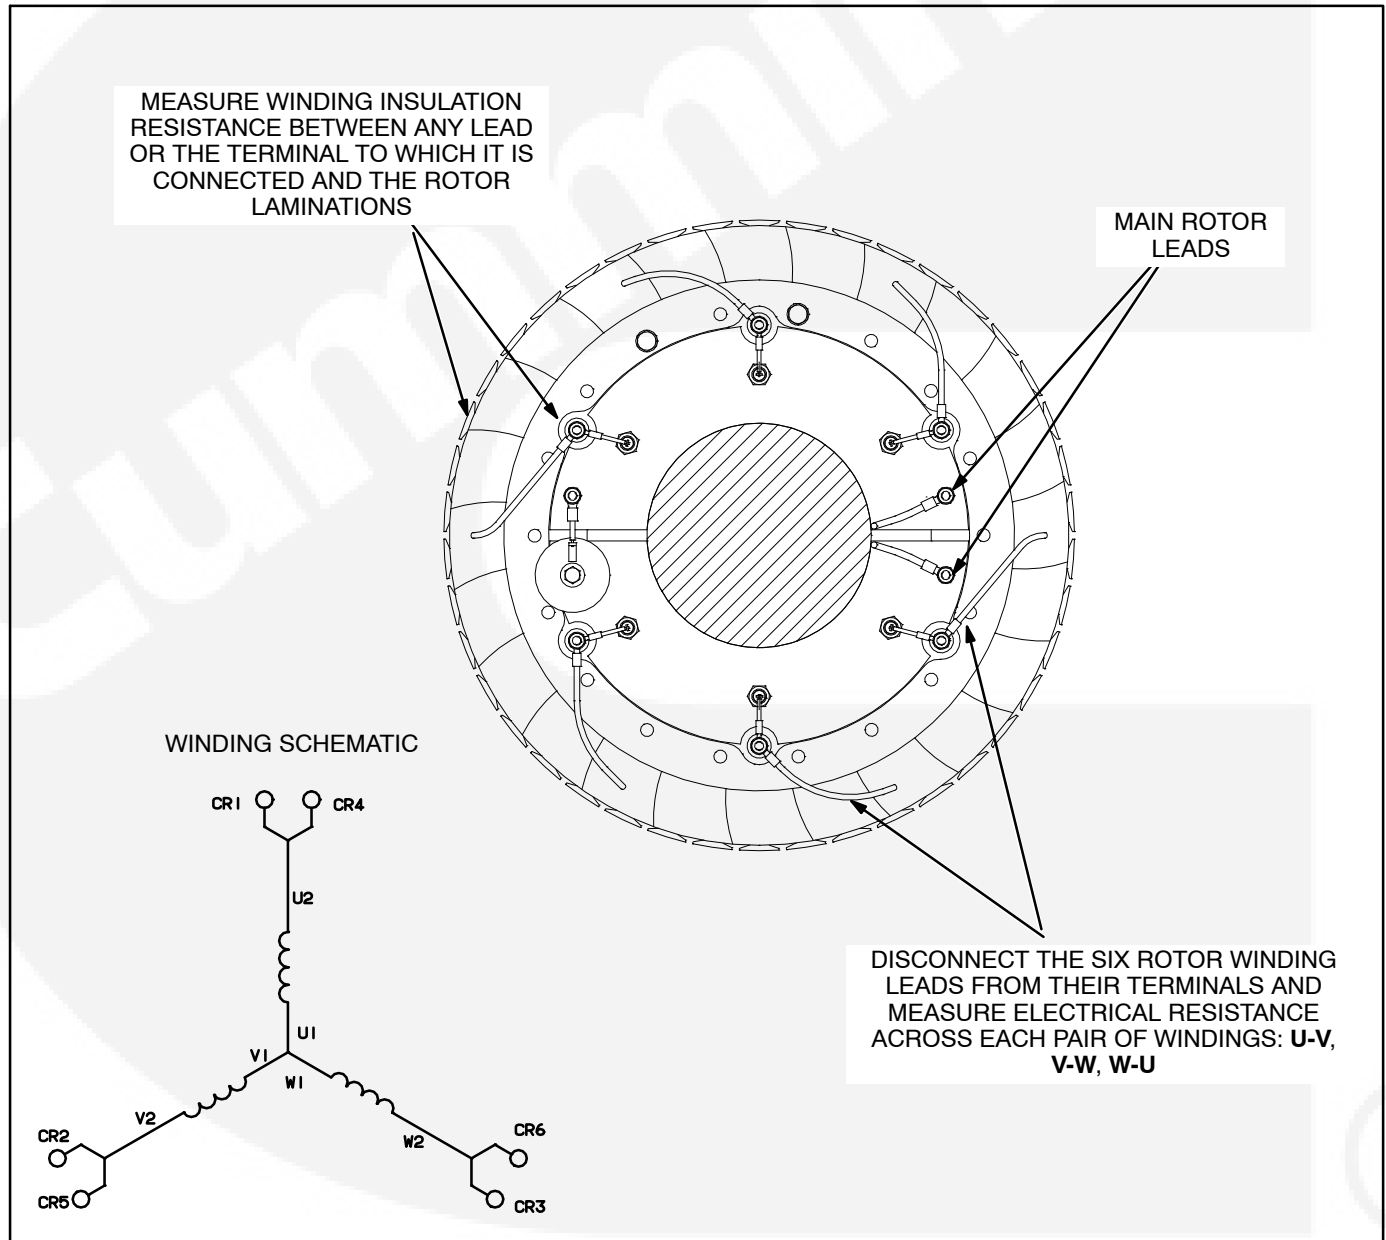

FIGURE 6-4. TESTING THE EXCITER ROTOR
**Testing Winding Resistance:** Disconnect the two leads of the main rotor from the terminals on the rotating rectifier assembly. See Figure 6-4. Measure electrical resistance between the two leads with a Wheatstone bridge or digital ohmmeter. Replace the rotor if the resistance is not as specified in Table 6-1. Connect the rotor leads and torque the terminals to 24 in-lbs (2.7 Nm) when reassembling.